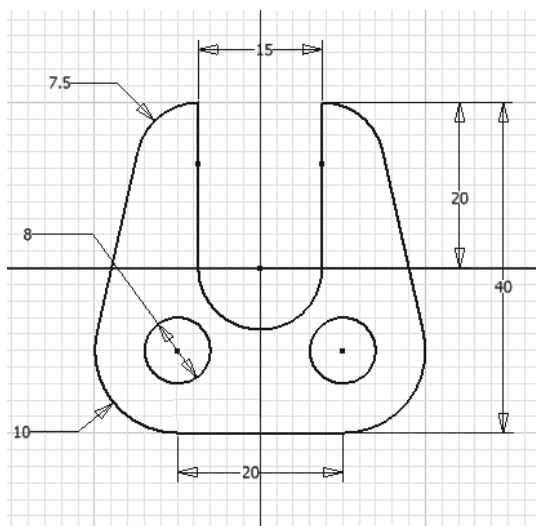

Figure 3-58 The final dimensioned sketch for Tutorial 3
- c. Draw inner circles and add constraints and dimensions to them, refer to Figure 3-58.
Notice that the size of the right circle is automatically modified to match the dimension of the left circle. This is because the **Equal** constraint is applied between the two circles. The final sketch for Tutorial 3, after drawing and dimensioning circles, is shown in Figure 3-58.